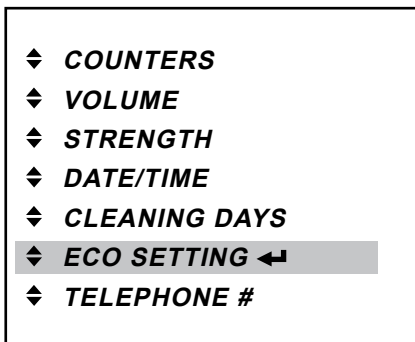

Fig. 43
- Press the enter button **↵** to access the «ECO SETTING» menu (fig. 43).